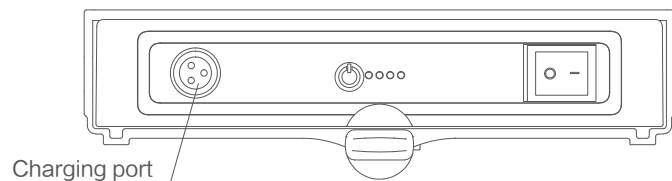

Figure 6.10
- ▶ Charging method 2: Remove the battery box from the electric wheelchair, and insert the charger plug into the slot on the battery box, as shown in Figure 6.10.